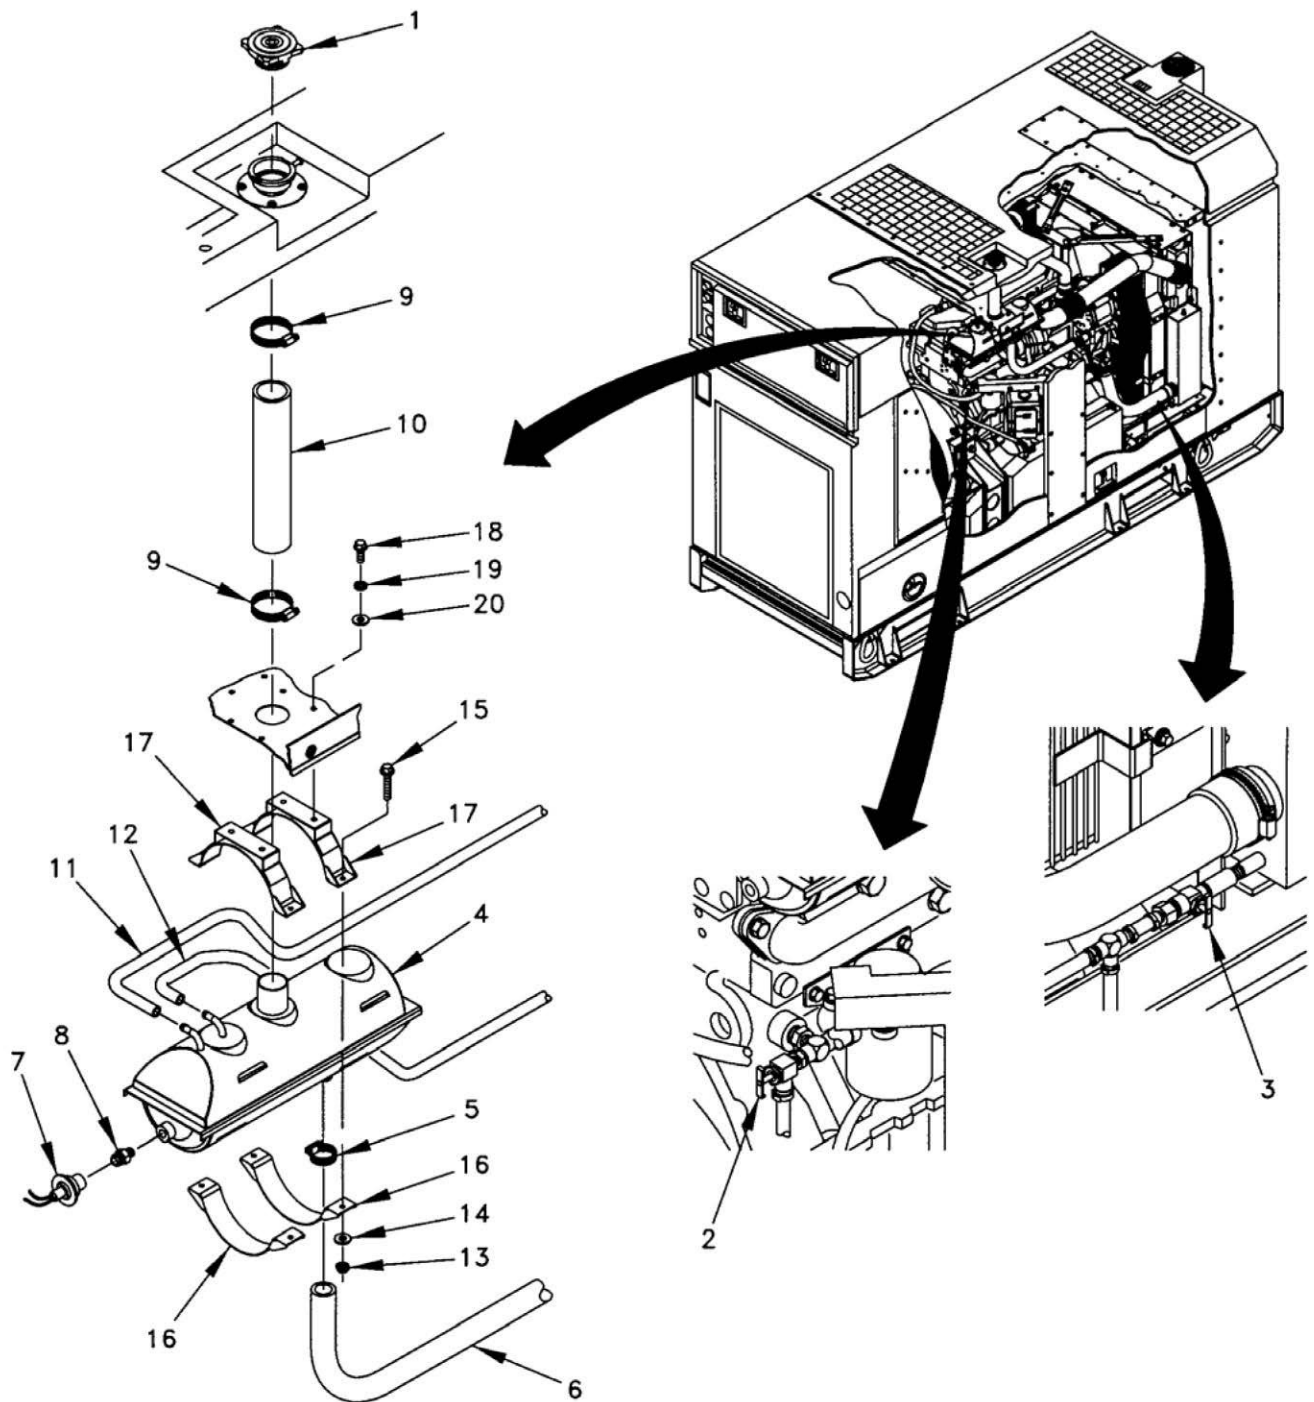

Figure 1. Surge Tank.
7. Remove coolant level sensor (Figure 1, Item 7) and reducer fitting (Figure 1, Item 8) from surge tank (Figure 1, Item 4).
8. Loosen two hose clamps (Figure 1, Item 9) and disconnect water hose (Figure 1, Item 10) from top of surge tank (Figure 1, Item 4).
9. Loosen two hose clamps and tag and disconnect two hoses (Figure 1, Item 11) and (Figure 1, Item 12) from top of surge tank (Figure 1, Item 4).
10. Remove four locknuts (Figure 1, Item 13), washers (Figure 1, Item 14), and screws (Figure 1, Item 15), and remove two lower surge tank brackets (Figure 1, Item 16) and surge tank (Figure 1, Item 4) from two upper surge tank brackets (Figure 1, Item 17).
11. Remove four screws (Figure 1, Item 18), lock washers (Figure 1, Item 19), and washers (Figure 1, Item 20), and remove two upper surge tank brackets (Figure 1, Item 17).
1. Install two upper surge tank brackets (Figure 1, Item 17) and secure with four washers (Figure 1, Item 20), lock washers (Figure 1, Item 19), and screws (Figure 1, Item 18).
2. Install surge tank (Figure 1, Item 4) and two lower surge tank brackets (Figure 1, Item 16) and secure with four screws (Figure 1, Item 15), washers (Figure 1, Item 14), and locknuts (Figure 1, Item 13).
3. Remove tags and connect two hoses (Figure 1, Item 12) and (Figure 1, Item 11) to top of surge tank (Figure 1, Item 4).
4. Connect water hose (Figure 1, Item 10) to top of surge tank (Figure 1, Item 4) and tighten two hose clamps (Figure 1, Item 9).
5. Apply sealing compound to male threads of reducer fitting (Figure 1, Item 8) and coolant level sensor (Figure 1, Item 7) and install reducer and coolant level sensor on surge tank (Figure 1, Item 4).
6. Connect hose (Figure 1, Item 6) to bottom of surge tank (Figure 1, Item 4) and install hose clamp (Figure 1, Item 5).
7. Pour coolant into COOLANT FILL and install fill cap (Figure 1, Item 1). If necessary, add coolant so level is between HOT and COLD marks on coolant recovery system bottle.